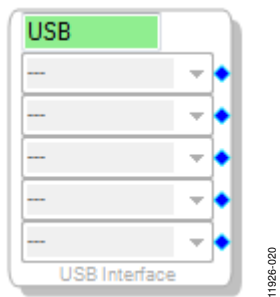

Figure 18. USBi Detected by SigmaStudio
- a. If SigmaStudio detects the USBi, the background of the **USB** label is green in the **USB Interface** box (see Figure 18).